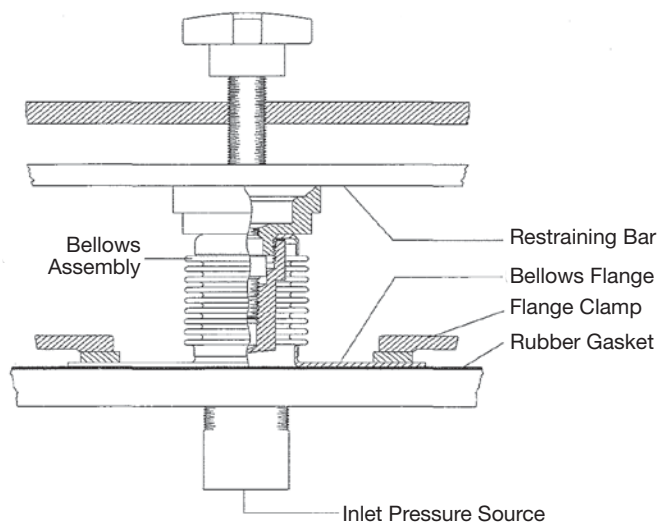
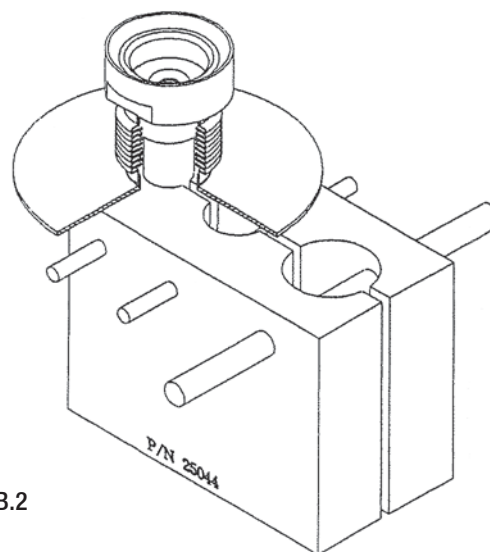

Figure B.1 Bellows Assembly Leak Test
Figure B.2
Bellows require very thin materials to provide the required flexibility. This results in a delicate assembly which should be carefully handled. Do not attempt to repair a bellows assembly. Any pitting or surface corrosion are sure signs of limited service life even though the bellows may be pressure tight. All bellows assemblies should be pressure tested in accordance with Figure B.1. Any leakage should be cause for bellows replacement. For BalanSeal bellows equipped valves use the assembly fixture shown in Figure B.2. Exercise care in handling the internal assembly when equipped with a bellows as any damage to the bellows in the form of a nick or dent will render the bellows unfit for service. Bellows are not repairable.
2. Seal the flange of the bellows to the base of the bellows test fixture as illustrated in Figure B.1.
3. Compress the bellows approximately 1/8 inch with a securing bar so that the bellows does not elongate when pressure is applied as in Figure B.1.
4. Thread the **Lock Screw** [19] counter clockwise until contact is made with the **Disc Holder** [6]. See **Figure B.1** for bellows leak test.